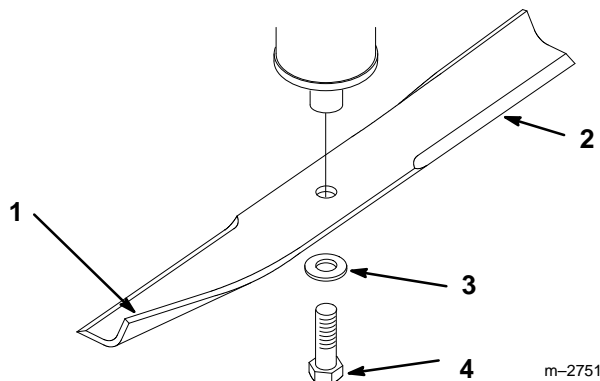
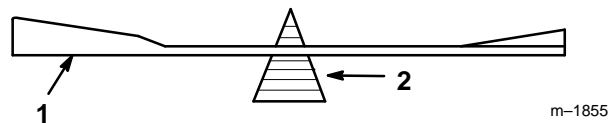

Figure 13
Figure 15
Hold the blade end using a rag or thickly-padded glove. Remove the blade bolt, lock washer and blade from the spindle shaft (Fig. 13).
2. Check the balance of the blade by putting it on a blade balancer (Fig. 15). If the blade stays in a horizontal position, the blade is balanced and can be used. If the blade is not balanced, file some metal off the end of the sail area only (Fig. 13). Repeat this procedure until the blade is balanced.
1. Install the blade onto the spindle shaft (Fig. 13).
2. Install the lock washer and blade bolt (Fig. 13). Torque the blade bolt to 85–110 ft-lb (115–150 N•m).